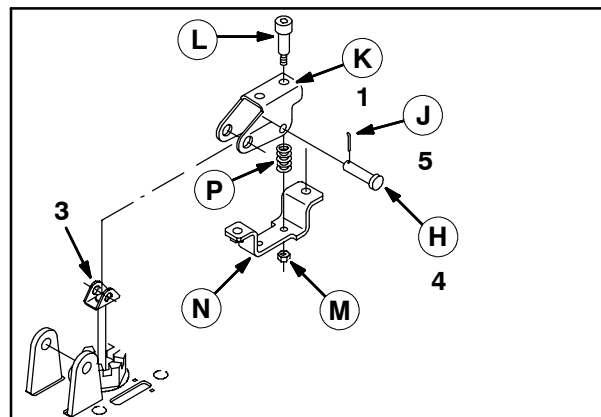

FIG. 16
25. Use clevis pin (4) and cotter pin (5) to mount the brake mounting channel (1) assembly to the brake channel (3). Refer to Fig. 16.